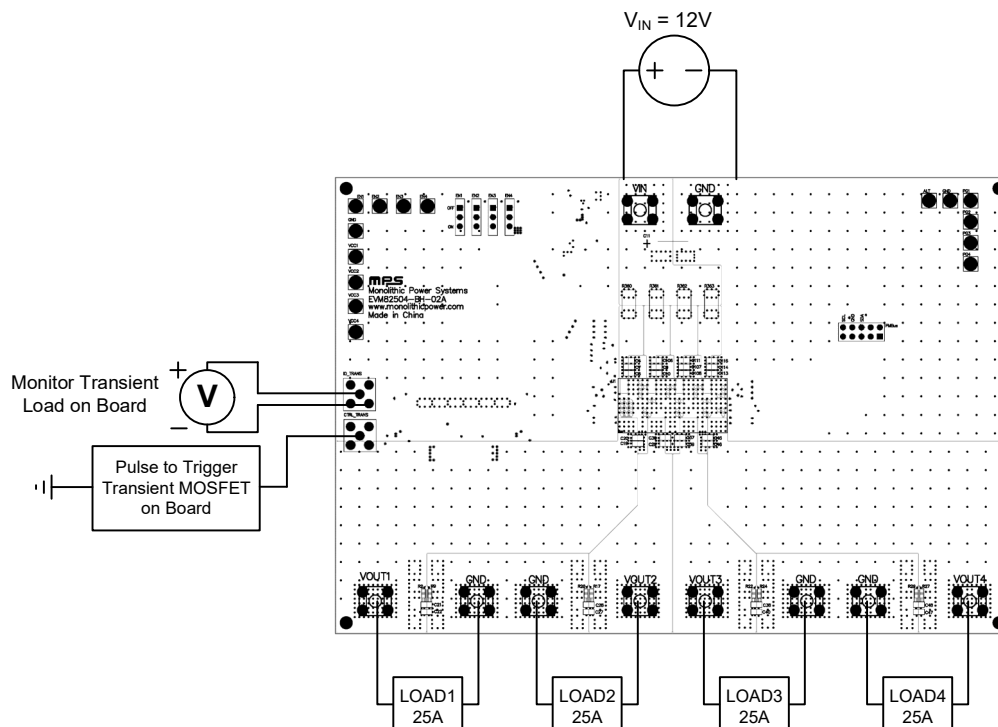

Figure 1: Measurement Equipment Set-Up
- After making the connections, turn on the power supply. If the EN switch is turned on, the MPM82504 channel(s) should output automatically. The output voltage (V_{OUTx}) for each channel is set to: $V_{OUT1} = 0.85V$, $V_{OUT2} = 0.9V$, $V_{OUT3} = 1.2V$, and $V_{OUT4} = 1.8V$ for channels 1 through 4, respectively (see Figure 1).
- When setting V_{OUTx} , a feedback resistor divider is required to set the proper feedback gain. The values of the feedback resistors can be estimated with Equation (1):